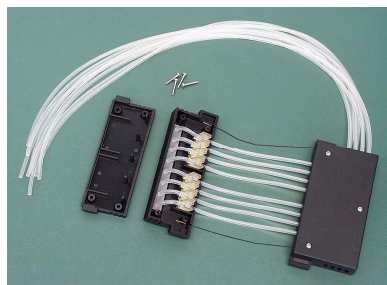

Figure 5–31. Removing the cover plate of the lower part of the dispensing cassette
2. Unfasten the four cover retaining screws of the lower part of the dispensing cassette (Figure 5–31).